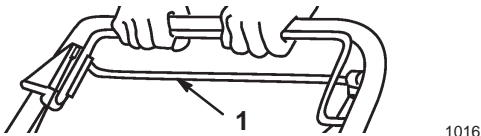

Figure 12
2. To disengage the self-propel drive, release the self-propel drive bail (Fig. 12).